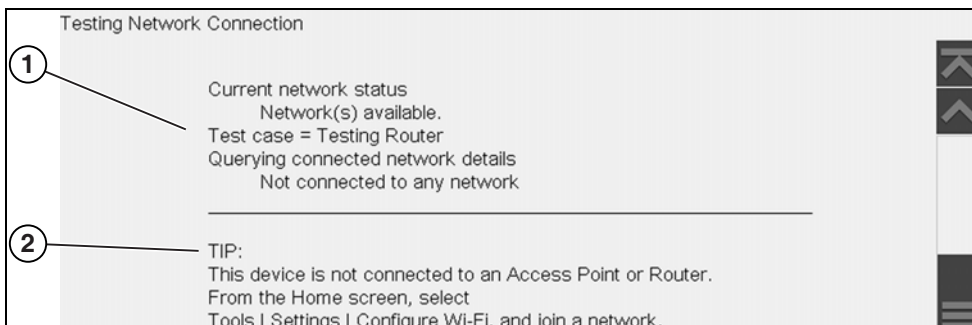

Figure 15-5 View Summary
4. If a connection issue(s) is present, select **View Summary** to review the results. The summary information is helpful if you are experiencing difficulties with your connection (Figure 15-5). Scroll through the summary information to review the test results for each system and Tip messages for the current connection issue. See *Connection Tests - Troubleshooting* chart in “Wi-Fi Troubleshooting and Status Messages” on page 150 for additional information.